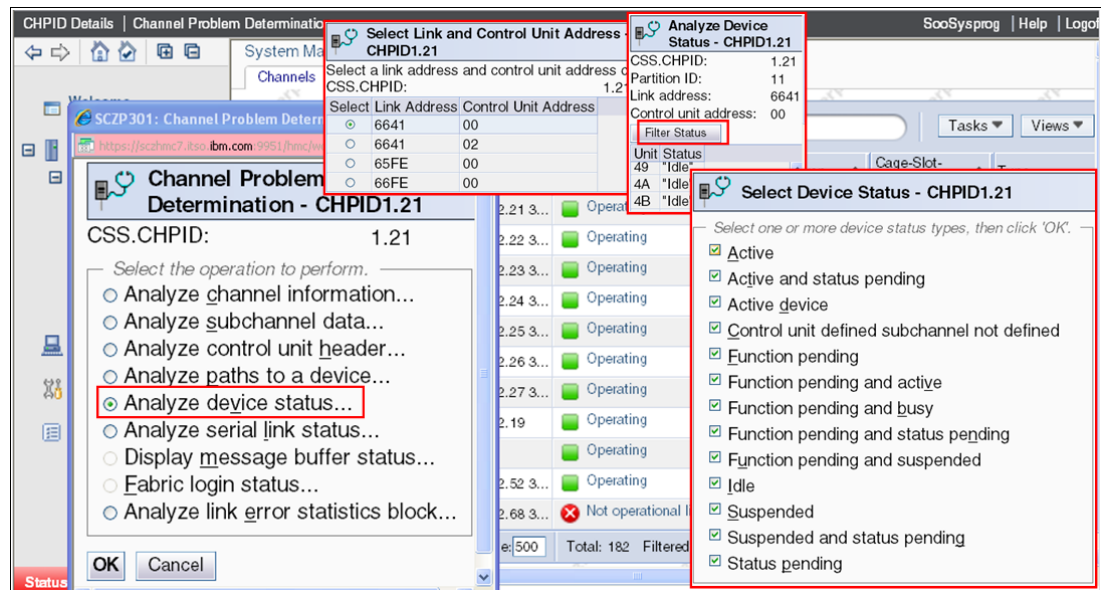

Figure E-14 Analyze Device Status panel
4. Select a **Link and Control Unit Address** (Select a Switch and its link address for a Device attached to work with), and click **OK**. The Analyze Device Status PD panel is shown in Figure E-14.